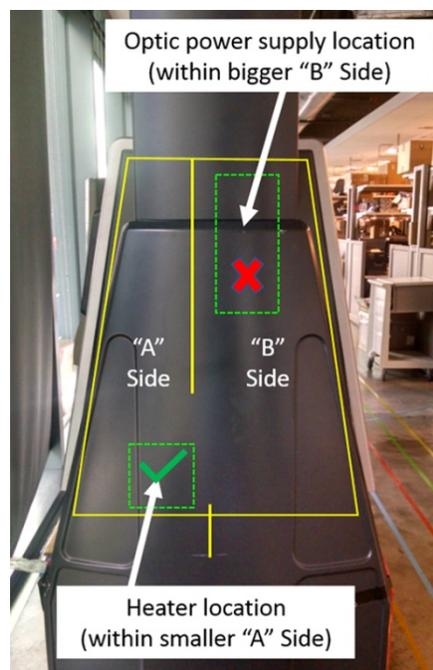

Figure 197
- 11) Mount the heater on “Side A” of the dispenser so that it is not directly under the OPTIC power supplies and their associated cabling, which are in the larger top cavity of “Side B”. See Figure 197 below.